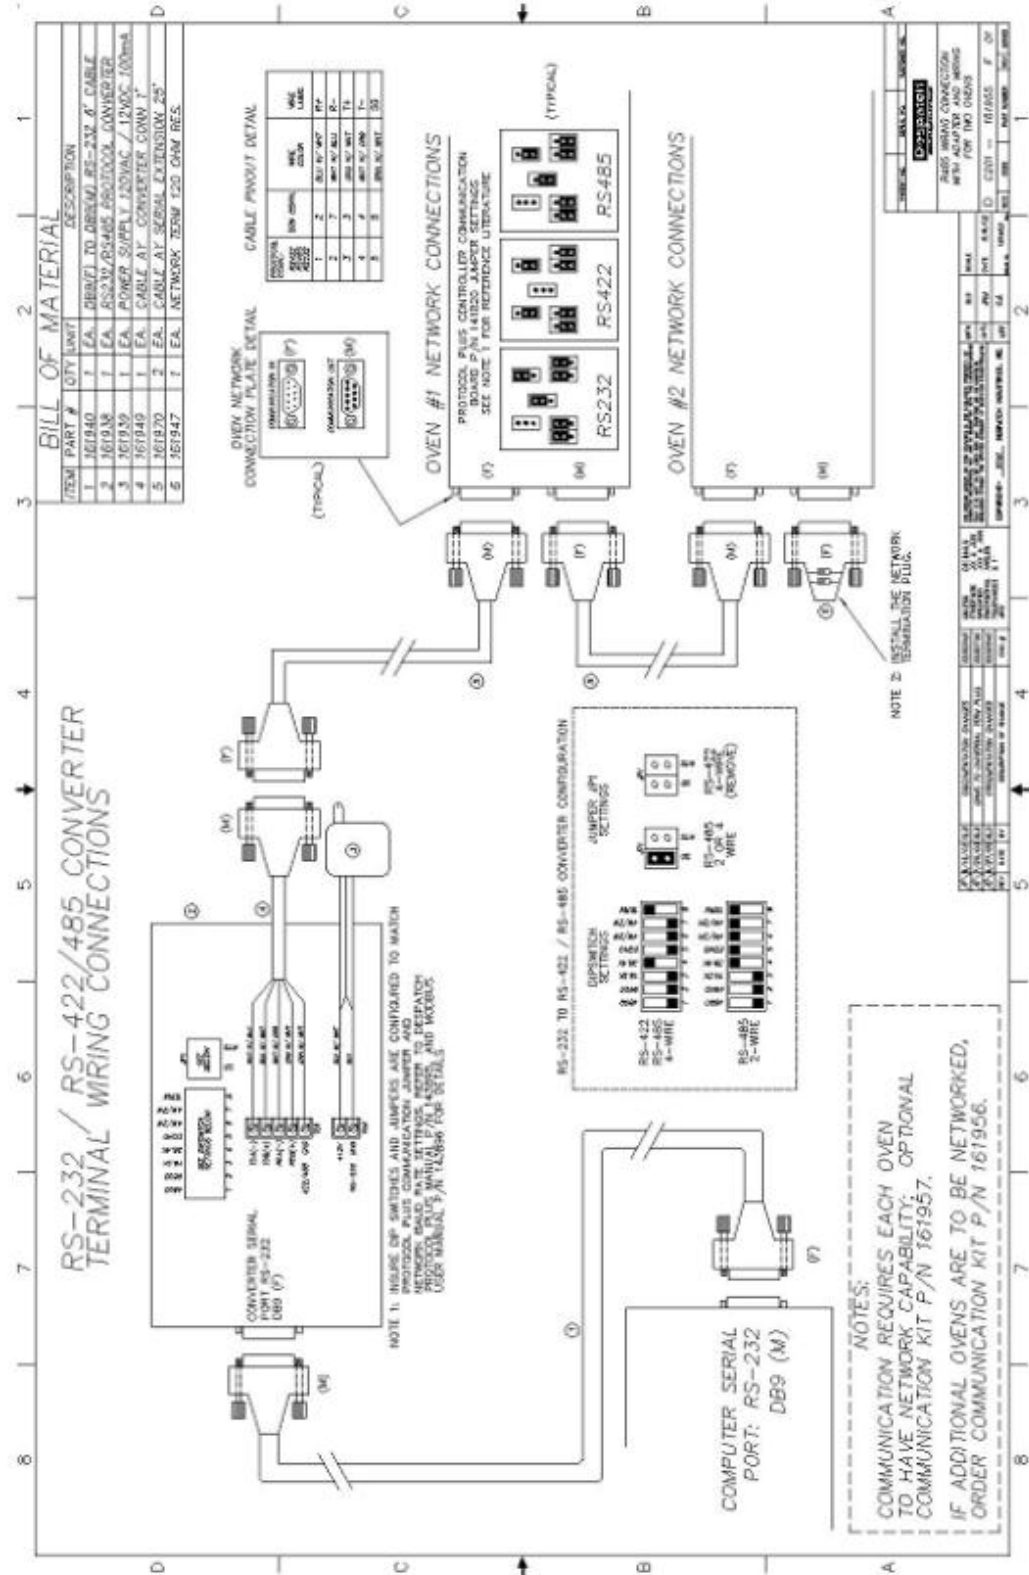

Figure 23. Older model serial converter schematic.
- Review schematics for older model serial converters (Figure 23)